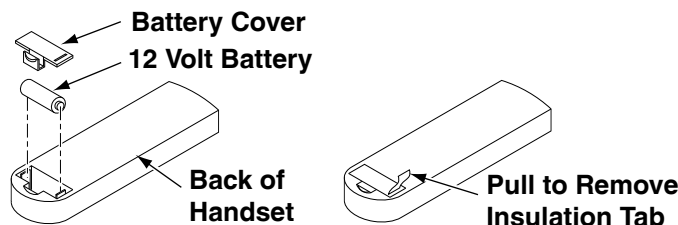

Figure 46 - Installing Battery into Back of Handset
3. Activate the remote handset battery by removing the insulating tab on the back of the handset (see **Figure 46**). The battery is included pre-installed.